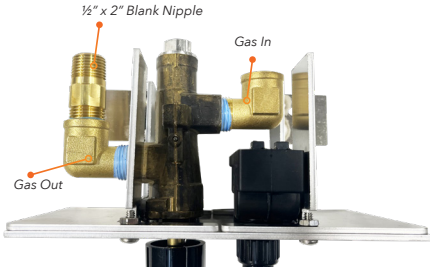
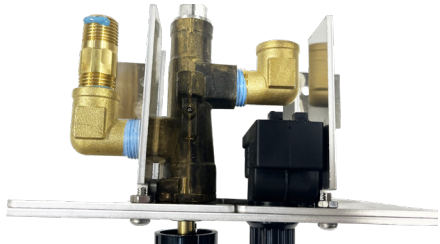

Figure 8a: Valve Assembly
Figure 8b: Applying Joint Compound
4.1 Identify the "outlet" on the Valve Assembly. The outlet should have a pre-installed 1/2" x 2" nipple attached. {See Figure 8a} Apply joint compound, thread sealant, or plumbing tape to the threads of the exposed end of the 1/2" x 2" nipple. {See Figure 8b}
- 4.5 Identify the "outlet" on the Valve Assembly. The outlet should have a pre-installed  $\frac{1}{2}$ " x 2" nipple attached. **{See Figure 8a}** Apply joint compound, thread sealant, or plumbing tape to the threads of the exposed end of the  $\frac{1}{2}$ " x 2" nipple. **{See Figure 8b}**